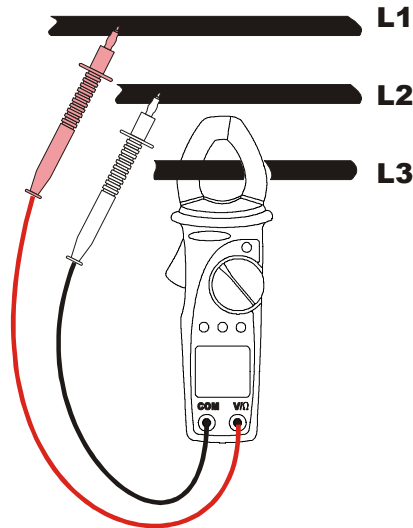

Fig. 13: power and energy measurement on three phase balanced systems
2. Open the jaws and clamp the L3 phase cable. Pay attention to the alignment marks (see paragraph 4.1.2. and Fig. 13).
4. Connect the red test lead to L1 phase conductor and the black test lead to L2 phase conductor (see Fig. 13). The measured active power value and the symbol "**AC**" are displayed.